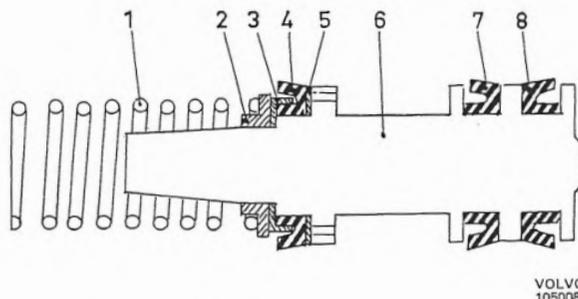

Fig. 5-49. Secondary piston
1. Fit the thin washer (5, Fig. 5-49), the seal (4) and the back-up ring (3) on the secondary piston. Fig. 5-49 shows how the parts are located.